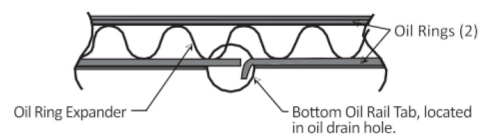

FIG. 1
- **3-piece** designs without tabbed rails are not directional and can be installed either direction. Designs with either one or two tabbed rails that are used to prevent rail rotation require the tabs to be installed with the tabs in the recesses of the oil ring groove. Consult the piston or engine manufacturers for specific installation information. *FIG 1